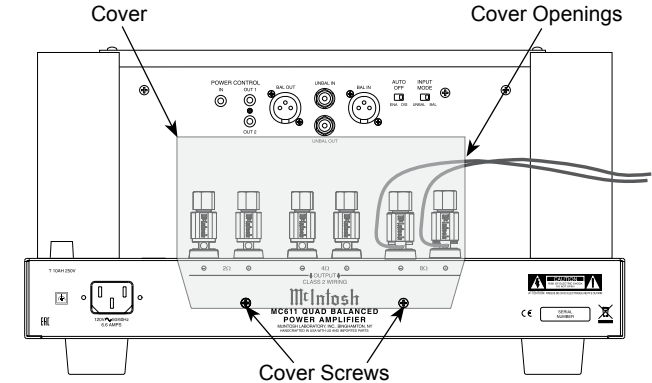

Figure 6 (Outside USA and Canada)
13. Locate the Terminal Connections Cover from the inside of the MC611 shipping carton. Insert the just prepared Loudspeaker hookup cables thru the cover opening on the right side. Refer to figure 6.
Note: The illustration in figure 6 is connections for 8Ω (ohms) Loudspeakers.
15. Attach the Terminal Connections Cover to the MC611 Rear Panel with the previously removed Screws. Refer to figure 6.